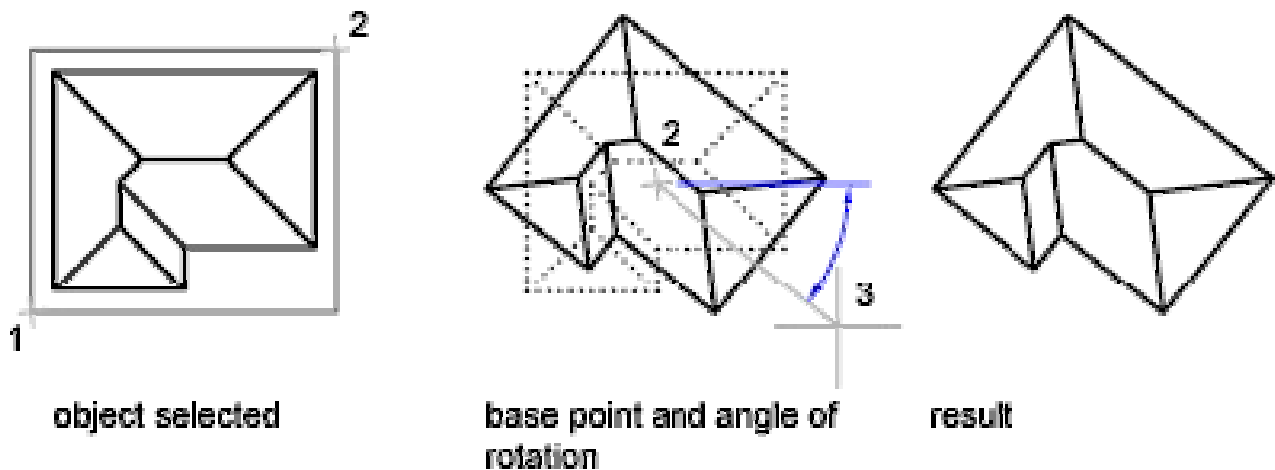

Figure 5.5 – Rotate Objects
For example, you can rotate the plan view of a house (fig. 5.5) by selecting the objects (1), specifying a base point (2), and specifying an angle of rotation by dragging to another point (3).